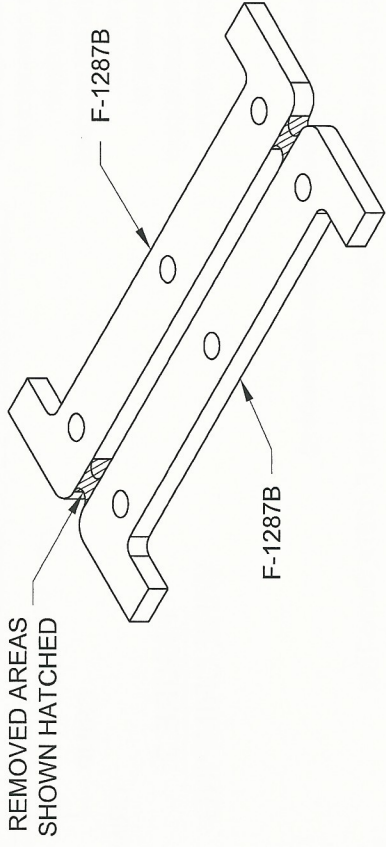

FIGURE 1:
Step 1: Remove any curve from the F-1287B Doublers if/as required by hammering them until they lay flat. Separate the doublers by removing the material shown hatched in Figure 1. Deburr both parts.